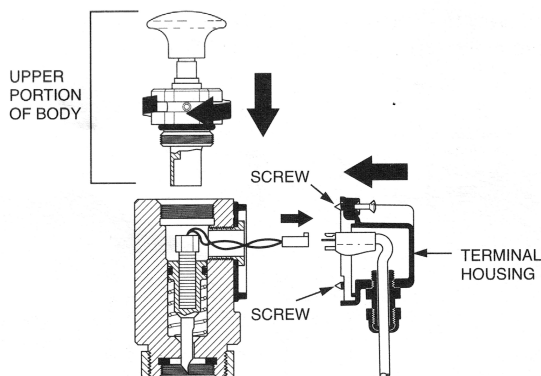

FIGURE 6
9. Thread the upper actuator body back into the lower body. See Figure 6.
10. Mate the PAD connector that is extending from the port in the actuator body to the connector located on the inside of the Terminal Housing and Cable Assembly, and using the two (2) captive screws, re-attach the Terminal Housing and Cable Assembly to the actuator body. See Figure 6.